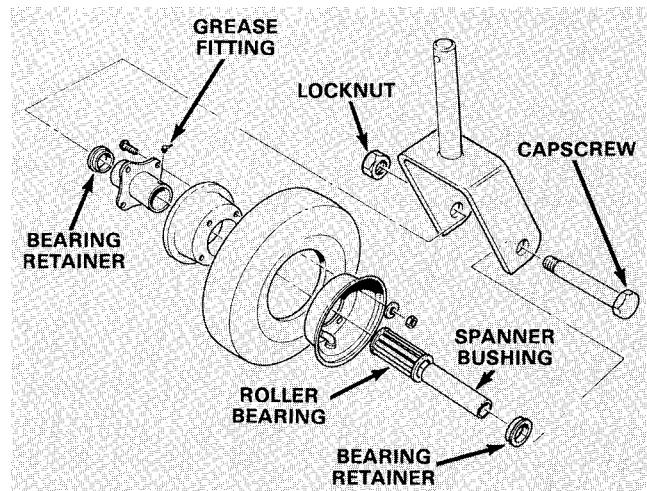

Figure 22
1. Remove locknut from capscrew holding castor wheel assembly between castor fork (Fig. 22). Grasp castor wheel and slide capscrew out of fork.
**Note:** Account for the two bearing retainers (Fig. 22).
2. Tip wheel to the side and allow roller bearing and spanner bushing to fall out (Fig. 22).
6. Pump more grease through grease fitting on wheel (Fig. 22) until bearing is greased thoroughly.